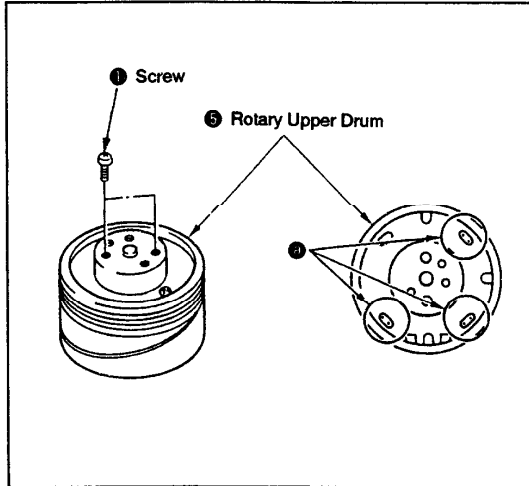
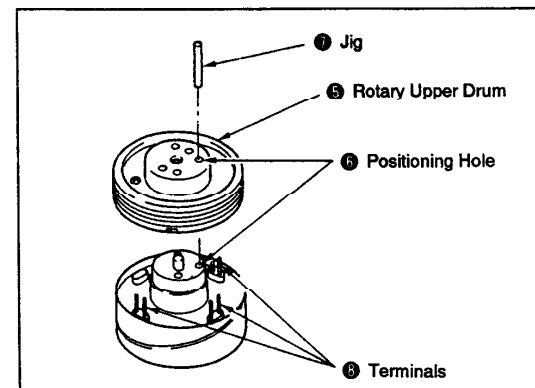

Fig. 3-22.
Fig. 3-24.
- 1) Detach the six solderings ①, then use a pair of tweezers or the like to confirm that the terminals passing through the board holes from below can move freely.
- 2) Remove the two screws ② (See Fig. 3-22).
- 1) Wipe clean the flange surface and the rotary upper drum ⑤ surface that makes contact with it, and confirm that they are free from dirt and scratches.
- 2) Insert the jig ⑦ (Ref. No. J-7) into the drum positioning hole ⑥, then set the rotary upper drum ⑤ by passing the jig through its positioning hole ⑥.
- Note:** Confirm that the terminals ⑧ protrude slightly from the rotary upper drum board holes (See Fig. 3-24).
- 3) Remove the jig ⑦ and push down the rotary upper drum ⑤ gently by hand. If it does not go all the way down, secure it temporarily by tightening the two hexagon socket screws ① alternately.
- 4) Insert the jig ⑦ into the positioning hole ⑥ again and confirm that it goes in smoothly. If it does not, loosen the two screws ①, repeat step 3 of the Removal paragraph and restart the setting procedure.
- 5) Tighten the screws ①.
- 6) Solder the terminals ⑧ (② in Fig. 3-22).